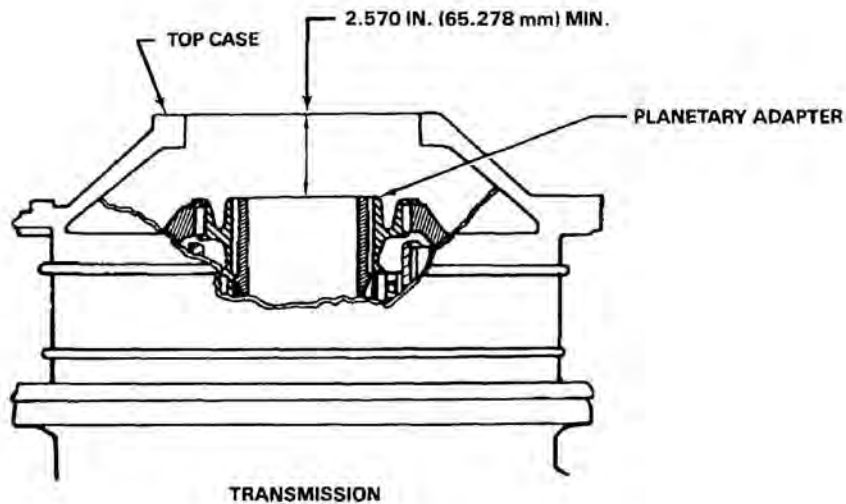

Figure 63-8. Dimensional Check before Installing Mast
63.3.2.3.2.1 Place a straight edge on top case of transmission. Measure from top surface of mast adapter in transmission to straight edge and record dimension (Figure 63-8).